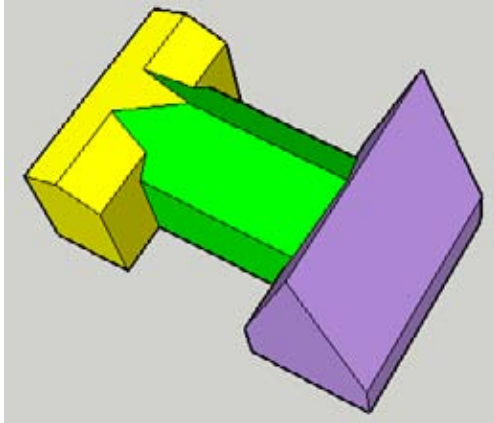

Figure 5-63
13. Erase extra lines. The completed resolved roofs are shown in Figure 5-63.